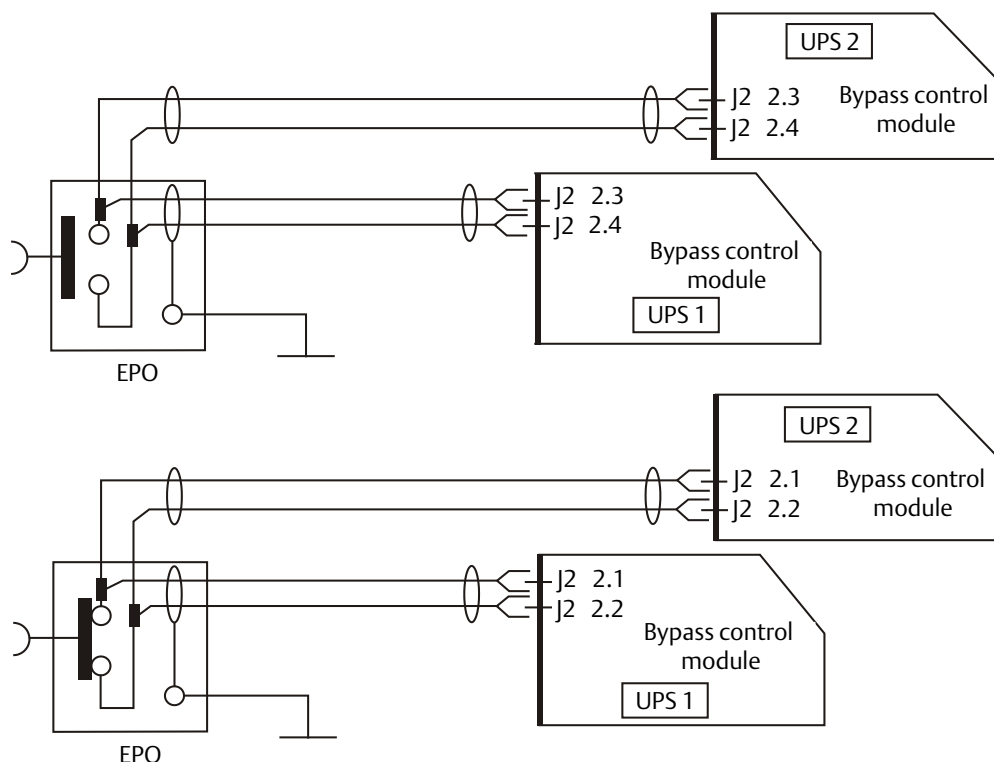

Figure 7-4 EPO circuit diagram
In addition to the EPO switch provided on the operator control and display panel of each UPS module for controlling the EPO of each module respectively, the parallel system also provides remote EPO function for controlling all UPS modules to shut down simultaneously from a remote terminal, as shown in Figure 7-4.
**Note:** In Figure 7-4, the upper one is Normally Open type, and the lower one is Normally Closed type.